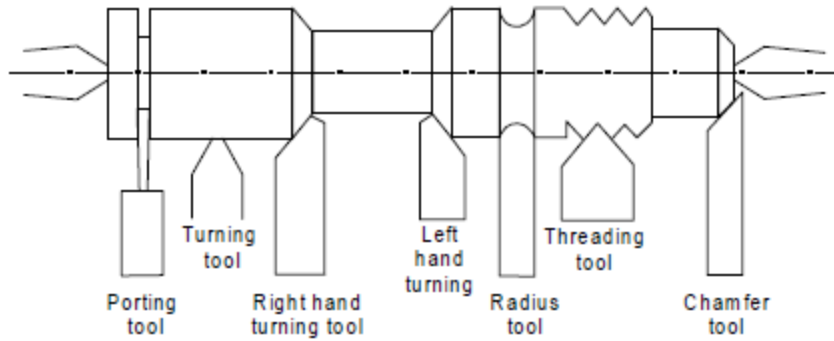

Fig. 8(a) Lathe operation
4. Job is held and driven by a chuck or a faceplate or an angle plate. The above methods for holding the job can be classified under two headings namely job held between centers and job held by a chuck or any other fixture. The various important lathe operations are depicted through Fig. 8 (a), (b) and (c). The operations performed in a lathe can be understood by three major categories.